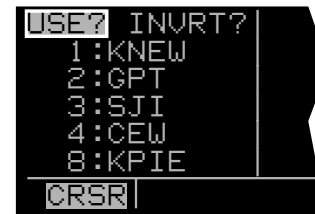

Figure 4-9
10. When all of the waypoints have been entered in the flight plan, the left outer knob may be rotated to move the cursor up and down and manually “scroll” through the waypoints making up this flight plan. This is useful if the flight plan contains six or more waypoints since not all of the waypoints can be displayed at one time. When the left outer knob is rotated to the full counterclockwise position, the cursor will be positioned over **USE?** (figure 4-9). If there are more than five waypoints in the flight plan, the first four waypoints will then be displayed followed by the last waypoint in the flight plan. Rotate the left outer knob to move the cursor and manually scroll to see the missing intermediate waypoints.